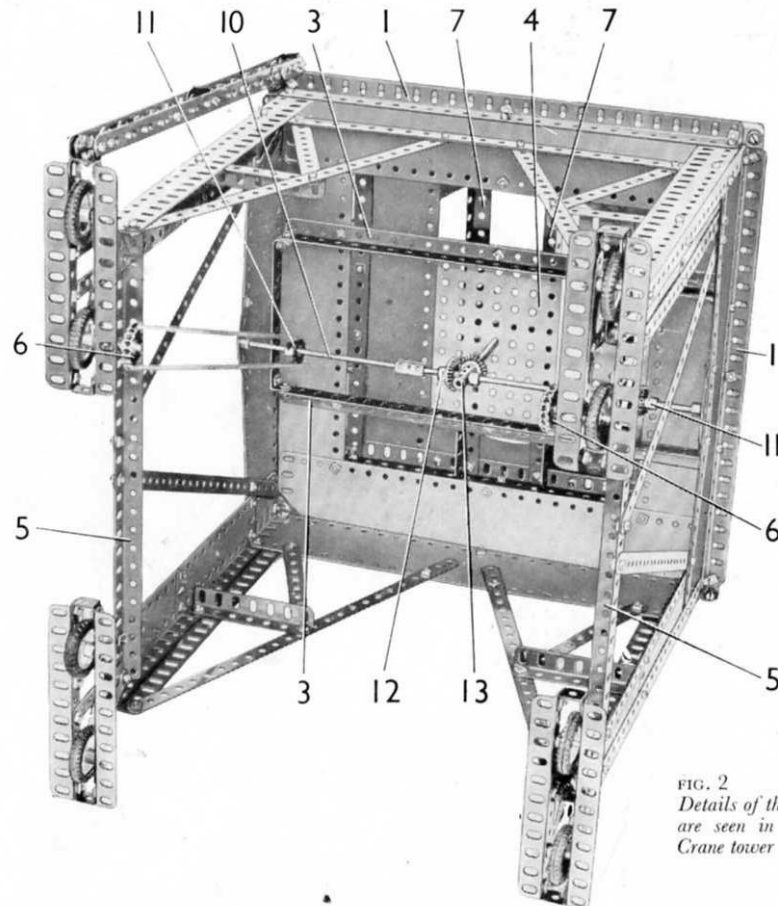
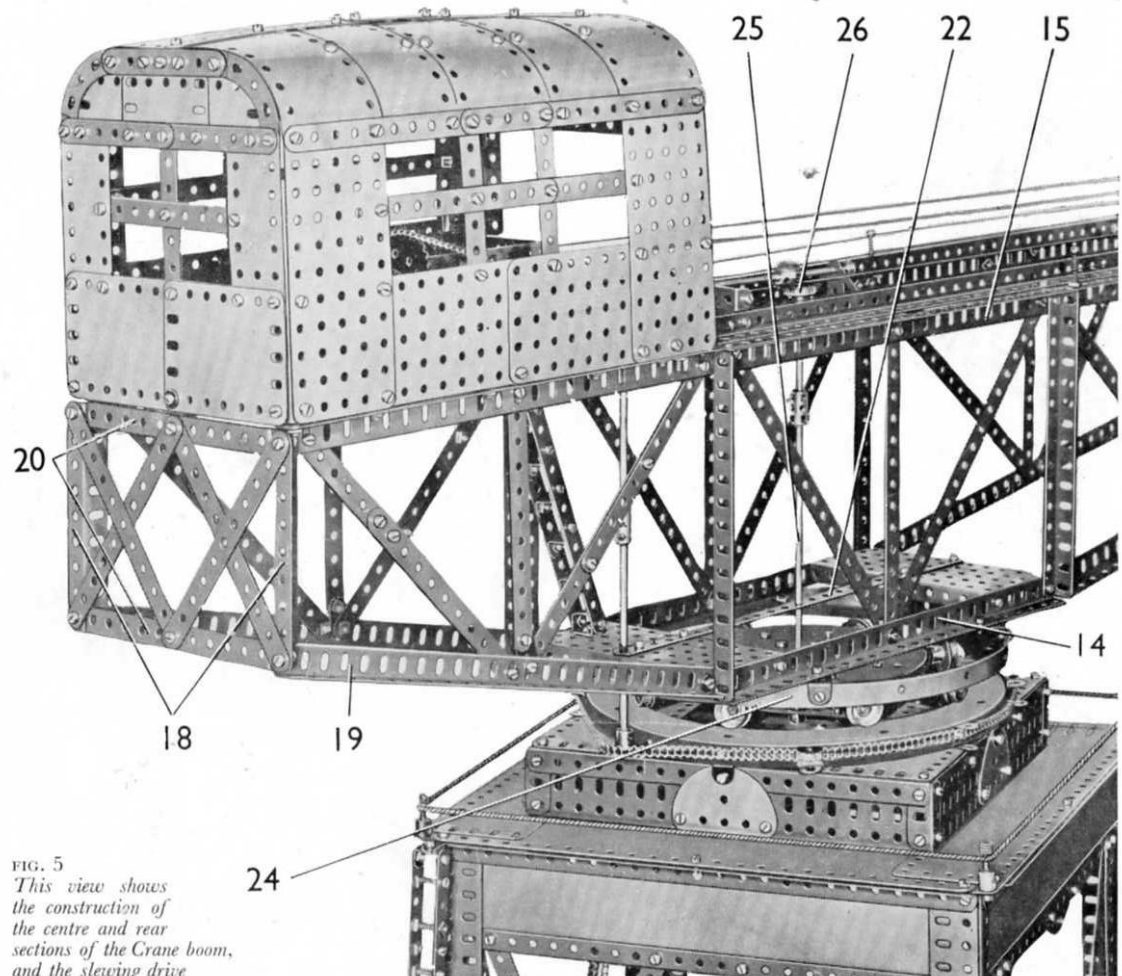
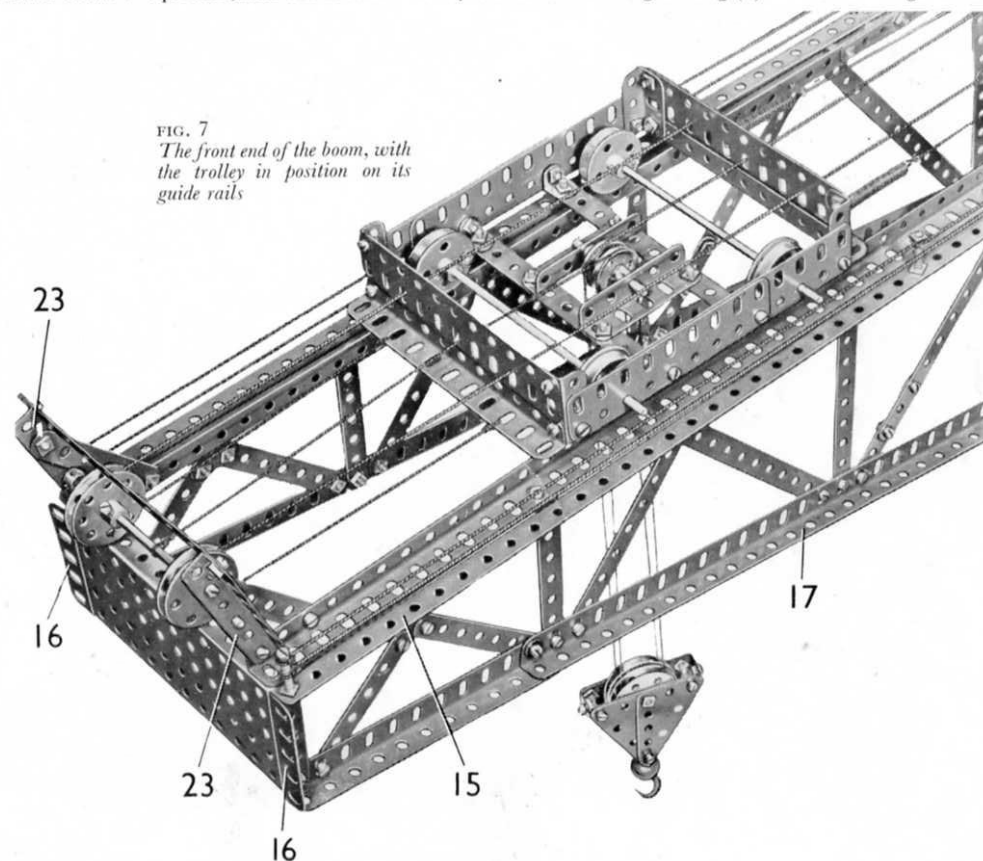
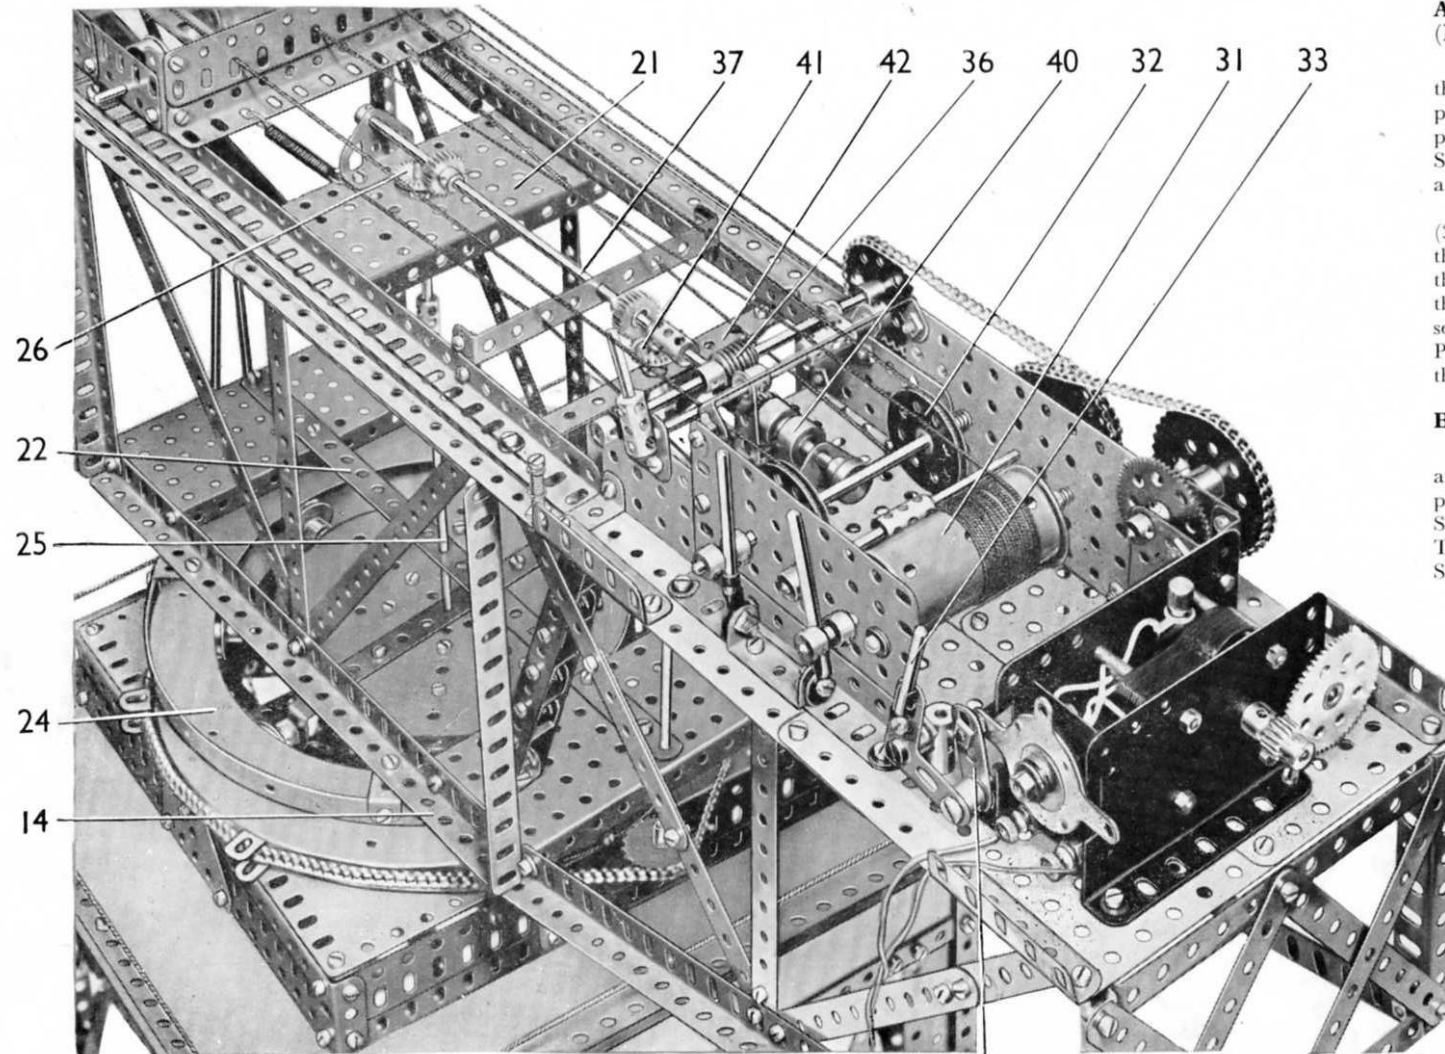

FIG. 2
FIG. 5
FIG. 7
FIG. 8 The Motor and gear-box mechanism
#### Constructional Details: The Tower (Figs. 2, 3 and 8)
The centre section of each main girder of the boom consists of a  $12\frac{1}{2}$ " Angle Girder (14) (Fig. 5) fitted at each end with a vertical  $7\frac{1}{2}$ " Angle Girder and at the centre with a  $7\frac{1}{2}$ " Strip. The  $7\frac{1}{2}$ " Girders and the  $7\frac{1}{2}$ " Strip are connected at the top by a built-up girder (15). The latter consists of a  $24\frac{1}{2}$ " Angle Girder that overlaps an  $18\frac{1}{2}$ " Angle Girder by three holes, with another  $18\frac{1}{2}$ " Angle Girder overlapping the first by 13 holes. At the front a  $2\frac{1}{2}$ " Angle Girder (16) (Fig. 7) is bolted to the girder (15), and is connected to the Angle Girder (14) by a built-up girder (17). Girder (17) consists of a  $24\frac{1}{2}$ " and a  $5\frac{1}{2}$ " Angle Girder overlapped one hole, and it is joined to the front of the Girder (14) by a Fishplate. A  $4\frac{1}{2}$ " Angle Girder (18) is fixed to the rear end of the girder (15) and to its lower end is bolted a  $12\frac{1}{2}$ " Angle Girder (19). The latter is connected to the rear end of the Girder (14) by a Fishplate.
A  $5\frac{1}{2}$ "  $\times$   $2\frac{1}{2}$ " Flanged Plate (21) (Fig. 8) is bolted between the girders (15), and a  $12\frac{1}{2}$ " Strip (22) is attached to the Flanged Plates fixed to the Girders (14).
#### The Roller Bearing (Figs. 2, 3, 4, 5 and 8)
An axle (25) is passed through the Flanged Plate (21) and the Strip (22) (Fig. 8), through the  $5\frac{1}{2}$ " Strip bolted to the Circular Plate, through two  $2\frac{1}{2}$ " Strips bolted face-to-face to the Girders (7), and through the Flat Plate (4) (Fig. 2). The lower end of the axle turns freely in the Coupling (13), and a  $\frac{7}{8}$ " Bevel drives the Bevel (12) on the cross-shaft. A  $\frac{3}{4}$ " Contrate (26) is fixed on the top end of the axle, which is made from a 3" and a  $11\frac{1}{2}$ " Rod joined by a Coupling.
#### Power Unit and Gear-Box (Figs. 8 and 9)
The sides of the gear-box are  $4\frac{1}{2}$ "  $\times$   $2\frac{1}{2}$ " Flat Plates bolted to  $4\frac{1}{2}$ " Angle Girders fixed to the base of the cab. Each side is extended forward by a  $3" \times 1\frac{1}{2}"$  Flat Plate, which is attached to the base at its front end by a  $1" \times \frac{1}{2}"$  Angle Bracket. An E20R Electric Motor is bolted by its flanges to the base as shown (Fig. 8), and to one side-plate two 2" Angle Girders are fastened by bolts through their slotted holes. A 2" Flat Girder is fixed to each Angle Girder to form a deep section channel girder.
By sliding axle (37) to the left (Fig. 8) a  $\frac{3}{4}"$  Pinion is moved into mesh with the  $\frac{3}{4}"$  Contrate (26) to engage the drive to the travelling wheels. When axle (37) is moved to the right a  $\frac{3}{4}"$  Pinion is engaged with a  $\frac{3}{4}"$  Contrate (41). This Contrate is fixed on an axle made from a 5" and a  $4\frac{1}{2}"$  Rod joined by a Coupling. The axle is supported in a strip (42), made from a  $5\frac{1}{2}"$  and a  $4\frac{1}{2}"$  Strip bolted face-to-face, and in one of the  $5\frac{1}{2}" \times 2\frac{1}{2}"$  Flanged Plates fixed between the Girders (14). The axle carries at its lower end a 1" Sprocket, and this is connected by Chain to the Flanged Ring (8) as shown in Fig. 5.
The lower part of the side of the cab seen in Fig. 5 consists of two  $4\frac{1}{2}$ "  $\times$   $2\frac{1}{2}$ " Flat Plates, with a  $5\frac{1}{2}$ "  $\times$   $2\frac{1}{2}$ " Flat Plate placed vertically at each end. The vertical Plates are connected at the top by two  $5\frac{1}{2}$ " Strips and a  $2\frac{1}{2}$ " Strip. The side shown in Fig. 1 consists of two  $5\frac{1}{2}$ "  $\times$   $2\frac{1}{2}$ " Flat Plates and a  $2\frac{1}{2}$ "  $\times$   $2\frac{1}{2}$ " Flat Plate, with a vertical  $5\frac{1}{2}$ "  $\times$   $1\frac{1}{2}$ " Flexible Plate at each end. The top